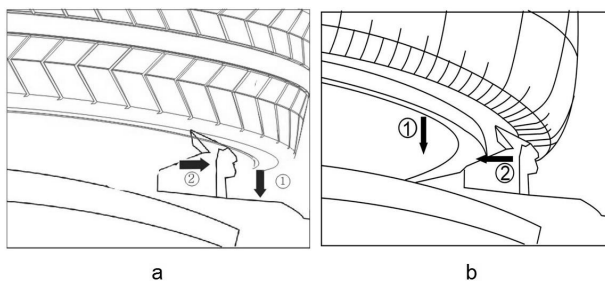

Fig. 20
- In case of inward clamping, shrink the jaws together, place the wheel on the turntable and depress pedal B to clamp (Fig.20-a).
- In case of outward clamping, enlarge the jaws outward (2-3cm away from periphery of the rim) and place the wheel on the turntable. and depress pedal B to clamp it(as fig.20-b) .